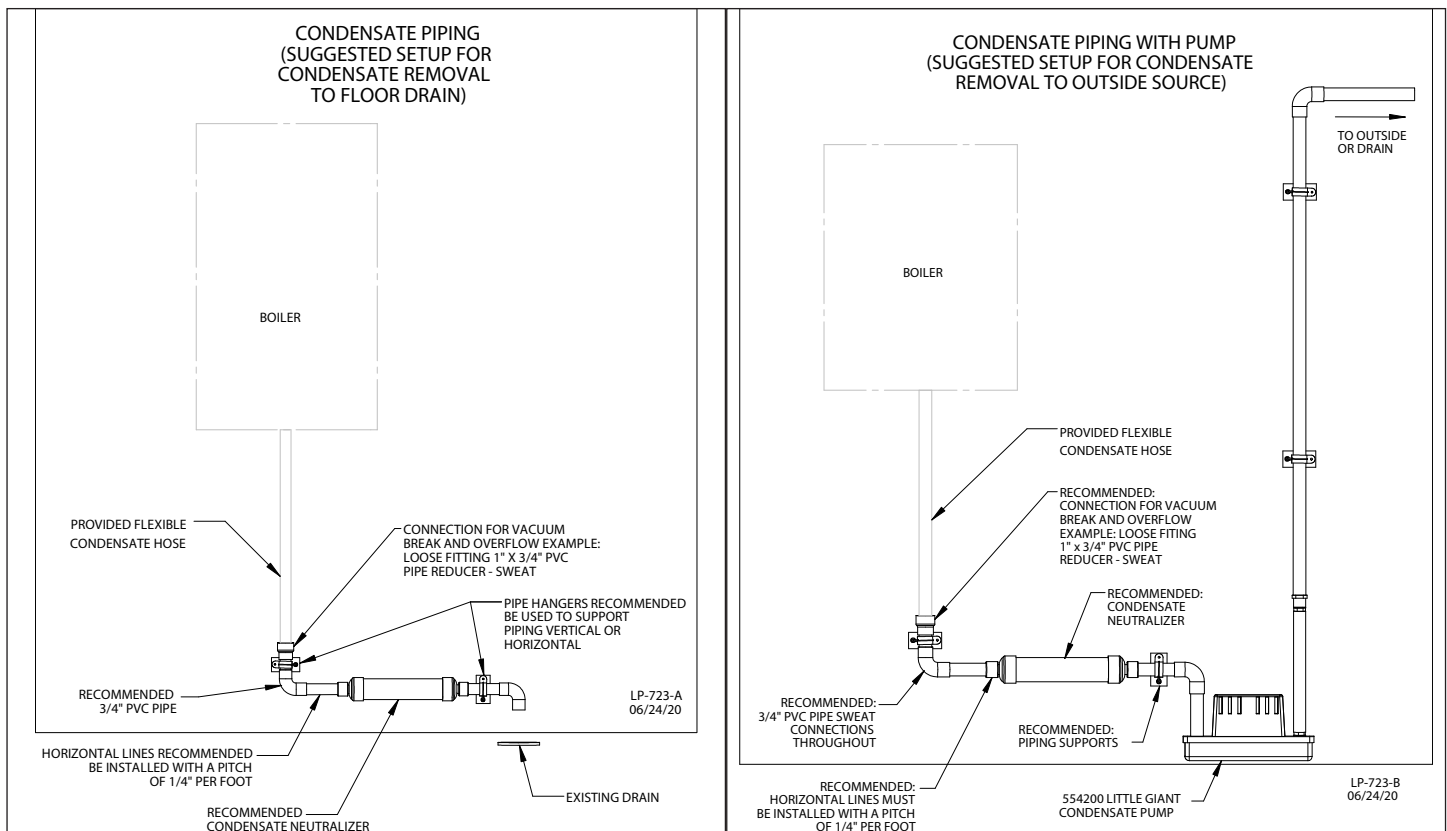

Figure 47 - Condensate Piping Suggestions
8. Local building codes may require an in-line neutralizer to be installed (not included) to treat the condensate. See Figure 47. If required by local authorities, a condensate filter of lime crystals, marble, or phosphate chips will neutralize slightly acidic condensate. Follow all the installation instructions included with the neutralizer. If a neutralizer is installed, periodic replacement of the limestone (or neutralizing agent) will be required. The rate of depletion of the limestone varies with usage of the boiler. During the first year of boiler operation, check the neutralizer every few months for depletion.